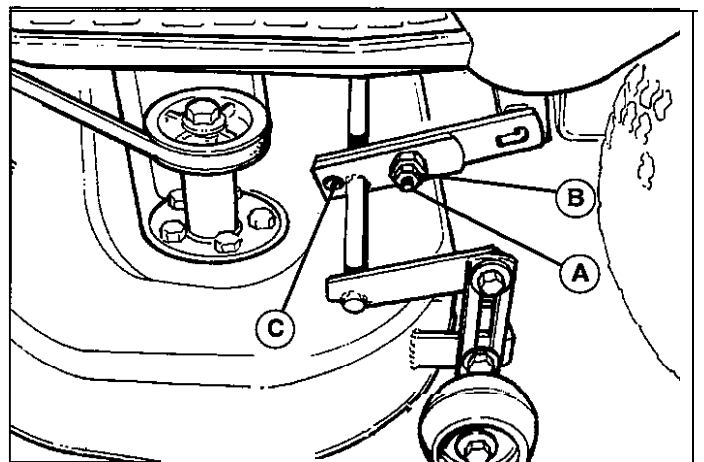

Figure 25. Side-to-Side Adjustment
- See figure 25. Loosen the outside nut (A) and tapite screw (C), then turn the eccentric nut (B) to raise or lower the left side of the deck. When the mower deck is level, hold the eccentric nut while tightening the outside nut. Tighten the tapite screw (C).